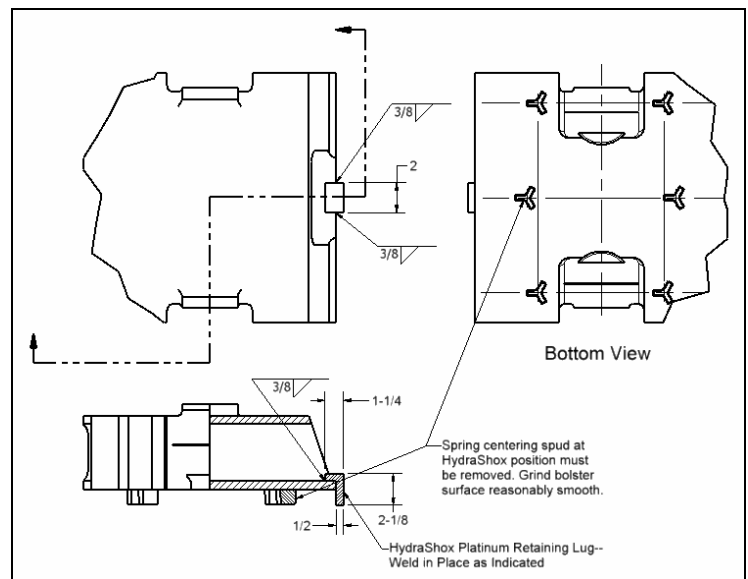
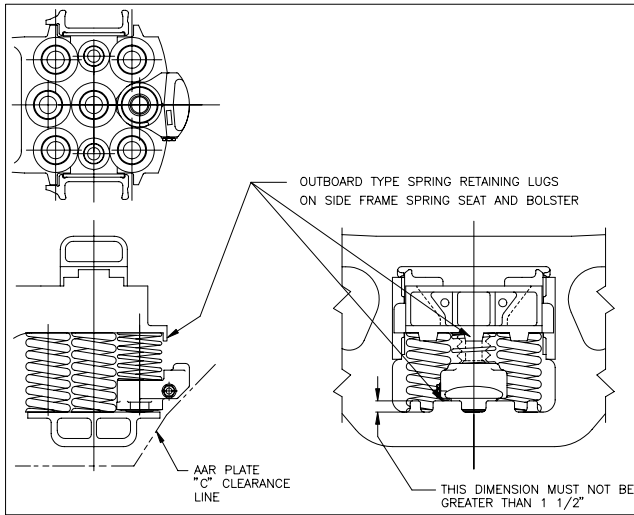

Figure 2. Bolster Modification
Figure 3. Arrangement in Typical Truck
Figure 3 shows a HydraShox Platinum in a typical 100-ton spring nest. When the truck spring nest has three outboard positions, the stabilizer should be installed in the center outboard position. If there are only two spring positions in the outer row, as on the 6x11 Ride Control® truck, the stabilizer is usually located in the right-hand position when looking at the spring nest from the side of the car, then diagonally opposed in each truck.
The truck spring retainer on the bolster at the stabilizer location must be of the outboard lug type (Fig. 3). This arrangement is widely used in the ASF Ride Control®. This lug should be at least 1-1/2" wide, 1/2" thick, and project below the bolster undersurface not less than 3/4", but not more than 1-3/16". An internal centering spud is used on many Barber® trucks, cast on the underside of the truck bolster. The one at the stabilizer location must be removed (Fig. 2). An outboard (fence-type) lug, available from A. Stucki Co., must then be added for stabilizer retention (Fig. 2). The bolster surface where the centering spud has been removed must be ground smooth. Bolsters with integrally cast or retrofit lugs designed for the Stucki HS-6 will accept the HydraShox Platinum with no additional modifications.
The position the HydraShox Platinum will occupy on the spring seat must be reasonably flat. Retention of the unit at the lower end must be provided by outboard lugs (Fig. 3). The stabilizer will not fit in a spring nest where the side frame has an outer rim or "fence" around the spring seat that is higher than 1-1/2" from the seat surface.
5. Depress the body spring downward and inward until it passes under the bolster lug. Tilt the top of the spring inward until the spring is completely inside the bolster lug and can extend to meet with the bolster undersurface (Fig. 3). In the case of trucks designed for the shorter 2-1/2" or 3-1/16" travel springs (D-3 and D-4) and particularly the low level style 6x11 trucks, considerable compression of the HydraShox Platinum retaining spring will be required to depress it below and past the bolster lug. Generally a pair of pry bars, one utilized on each side of the lug, may be required for such installations. When using pry bars, avoid striking the exposed area of the piston rod.